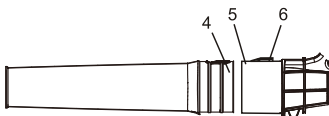

Fig. 6
3. Slide the large end of the rear nozzle section (4) over the blower intake (5) (Fig. 6).
4. Push the rear nozzle section firmly onto the blower intake until the nozzle release button (6) “clicks” into place locking the nozzle assembly onto the blower intake.